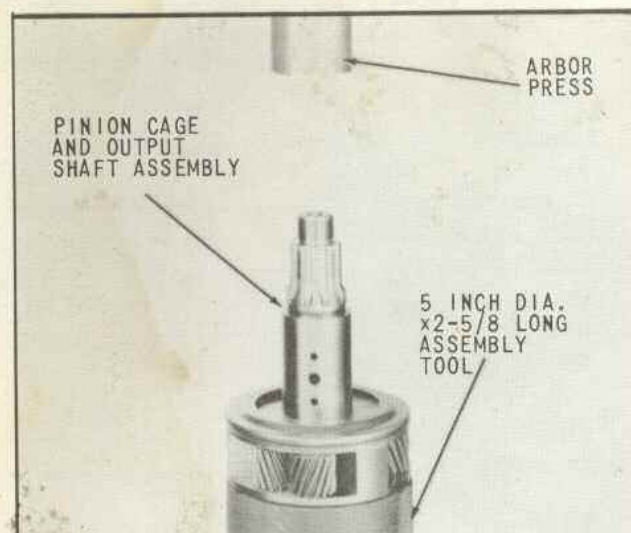

Fig. 25 Pinion Cage and Output Shaft Assembly in Place on Arbor Press
6. Place the pinion cage and output shaft assembly on a 5 inch diameter by 2-5/8 long assembly tool, which in turn is mounted on an arbor press, as indicated in (Fig. 25).